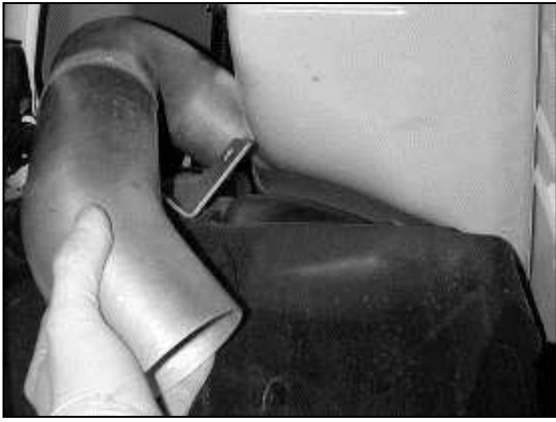

Fig. 11
- h. From underneath the car, install the AEM® lower inlet pipe into the passenger side bumper cavity. The end bent to 90° should pass through the hole in the fender well. **(Fig. 11)**